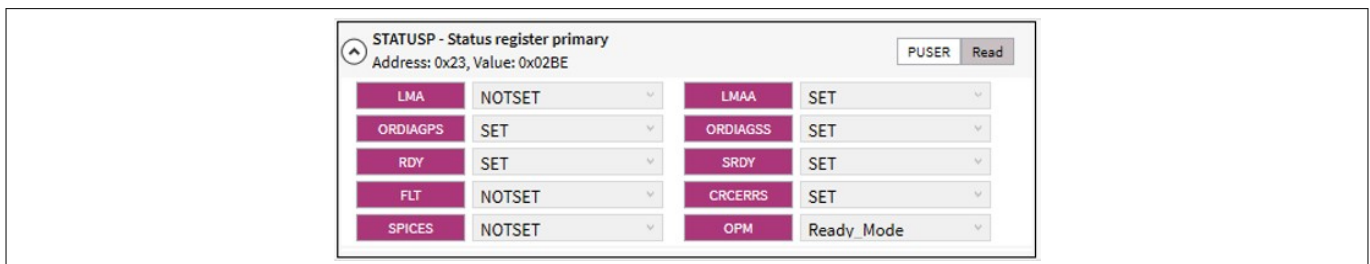

Figure 26 STATUSP panel confirmation – RDY, NFLT, OPM
- Confirm: **RDY** = SET (device is ready), **NFLT** = NOTSET (no fault occurred), **OPM** = Ready_Mode. See Figure 26. If not, press **RESET** button in Figure 25 or push buttons on **PCB**